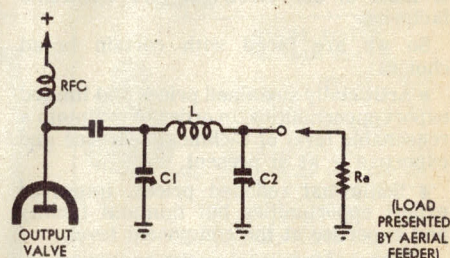

Figure 1: The basic pi-coupler circuit configuration.
In view of the widespread use of the pi-coupler, it is surely disappointing that the established radio textbooks and amateur radio reference manuals generally devote very little space to a discussion of its basic operation. Most simply give its basic circuit configuration, as in figure 1, together with a few basic formulae describing its properties. Small wonder that to many radio amateurs and technicians its operation is still something of a mystery!
To begin, then. As figure 1 shows, the basic pi-coupler consists of a series inductor L, together with two shunt capacitors C1 and C2. Usually both C1 and C2 are made variable, as shown. The load resistance Ra presented by the aerial feeder cable is connected to the network across C2, while the plate or collector of the PA stage connects across C1 via a high-value DC blocking capacitor. An RF choke is used for the PA stage DC return.
It is possible to simplify the circuit of figure 1 by reducing it to the bare essentials as far as its RF operation is concerned. This is shown in figure 2(a), which also represents the way that
Although these design calculations will give specific values for  $L$ ,  $C_1$  and  $C_2$ , it should be remembered that one rarely has a very precise knowledge of the optimum PA stage load resistance  $R_p$ . This combined with the various simplifying assumptions used to arrive at equations (7) and (9) means that it is usually desirable to use variable capacitors for both  $C_1$  and  $C_2$ , as shown in figure 1.